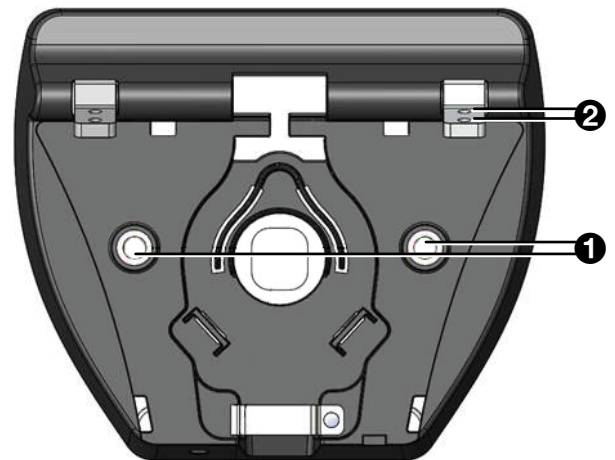

Figure 2. Mounting Holes in TLP Pro 1225TG Base
Figure 2 shows the base of the TLP Pro 1225TG, with the cover removed to indicate the position of the mounting holes (❶). The base of the TLP Pro 1525TG and TLP Pro 1725TG are similar and the spacing of the mounting holes is identical.
2. Remove the four screws holding the touchpanel to the base. There are two screws in each base attachment hinge (see figure 2, ❷, above).